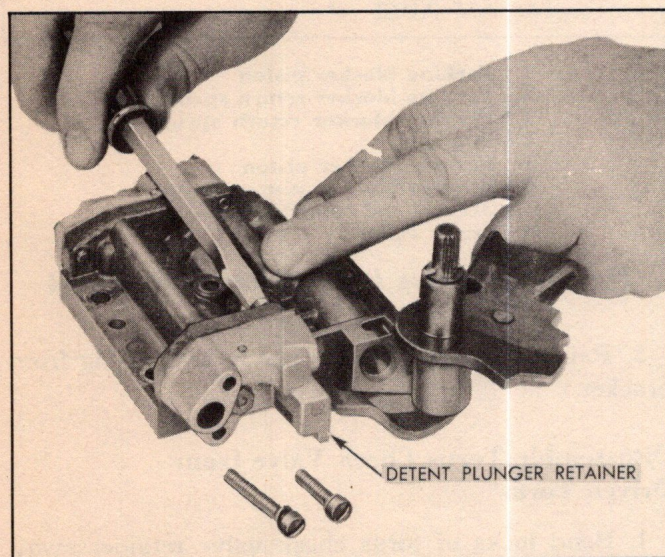

Fig. 180—Removing Detent Plunger Retainer
11. Remove three screws from detent plunger retainer and remove retainer and plate (Fig. 180).